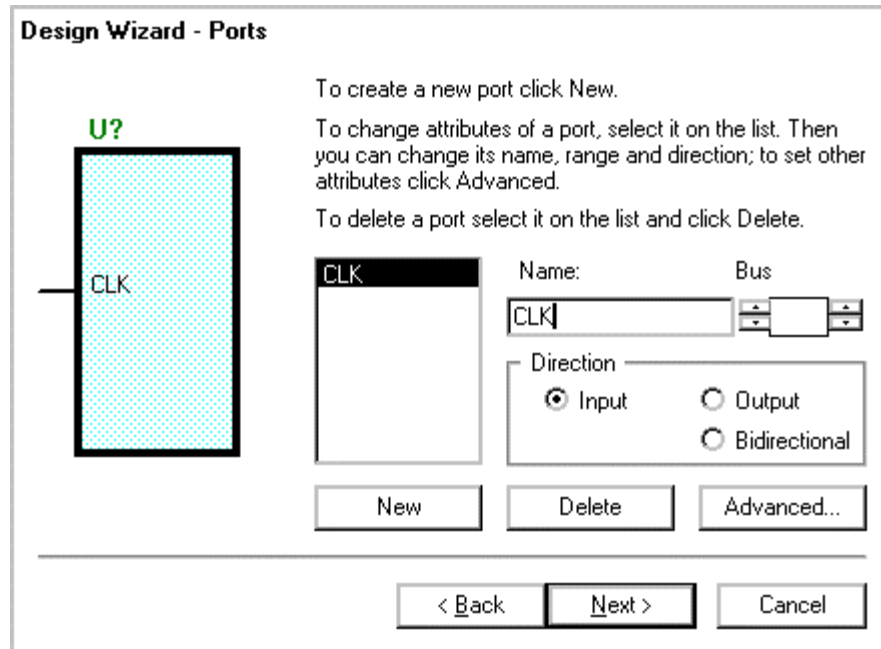

Figure 2. The “Ports” window.
- 6) The “**Port**” window allows the user to create input and output ports and to specify attributes for each port. Click on “**New**”, and select a direction of “**Input**”. Since there are no input buses, enter the name “**CLK**” and do not specify a bus width (see Figure 2). After entering this, click on “**New**”. Enter the “**RESET**” and “**STRTSTOP**” input ports in the same manner.